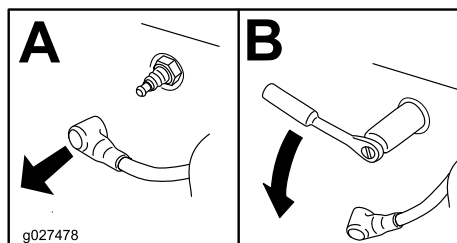

Figure 56
4. Locate and remove the spark plug(s) as shown in Figure 56.